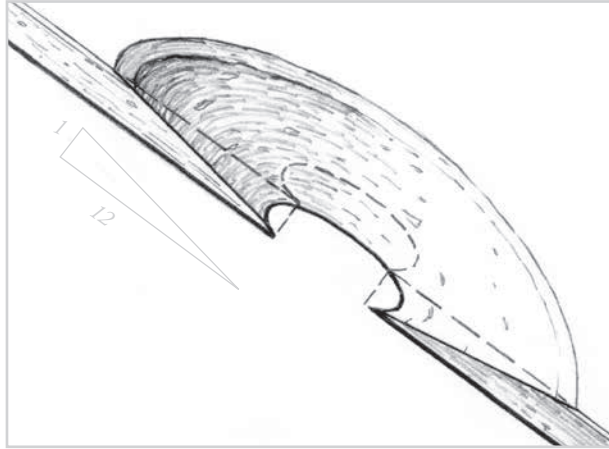

Figure 4-1 Grind a minimum 12-to-1 bevel around the edge of the excavated hole, whether the damage extends partially or completely through the skin.
2. Grind a bevel around the edge of the repair area to create a bonding area for the patch that will keep the patch flush with the skin's surface. A minimum 12-to-1 bevel is required to assure the transfer of loads across the repair area (Figure 4-1). For example, if you are left with a hole through a $\frac{1}{4}$ " (6 mm)-thick laminate, the outer edge of the bevel will extend 3" (76 mm) from the inside edge of the hole. If the skin is very thin, a longer bevel angle is required.